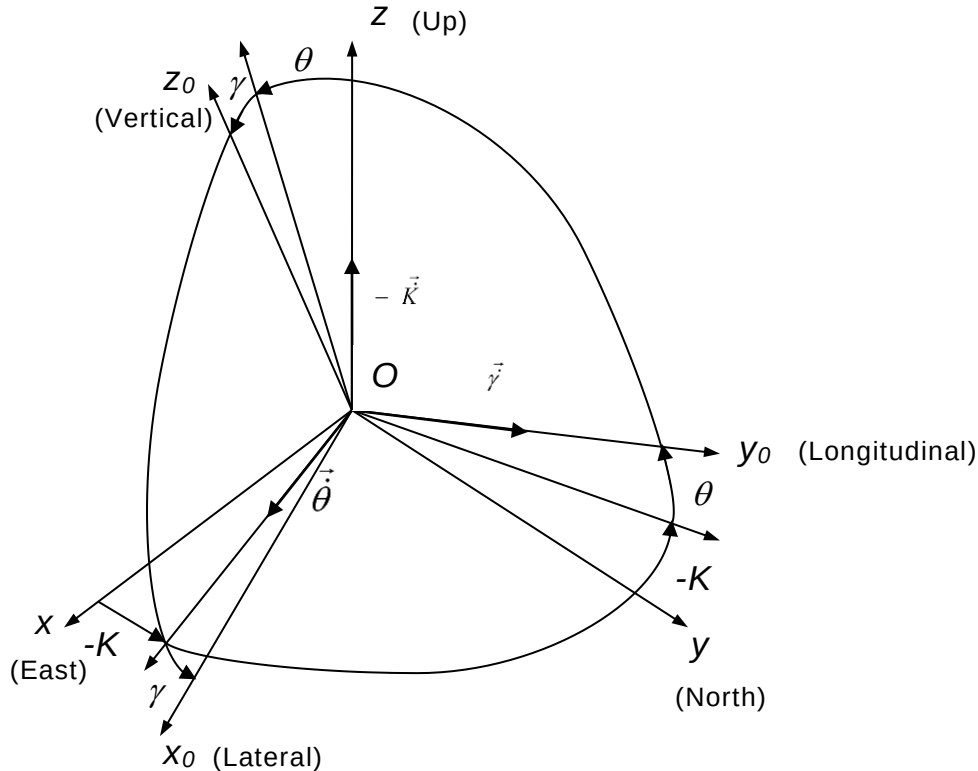

Figure D.1. Transformation of coordinate systems
Measured angles are the standard Euler angles of rotation from the Earth-level frame to the object frame: heading K is first, then pitch θ , and then roll γ (see Figure D.1).
1. Positive direction of heading is clockwise. So, heading K is shown with a minus sign in Figure D.1.
Directional cosine matrix (DCM) is the rotation matrix **C** from the object body reference frame $Ox_o y_o z_o$ to the geographical reference frame $Oxyz$. According to Figure D.1, DCM can be represented through Euler angles as